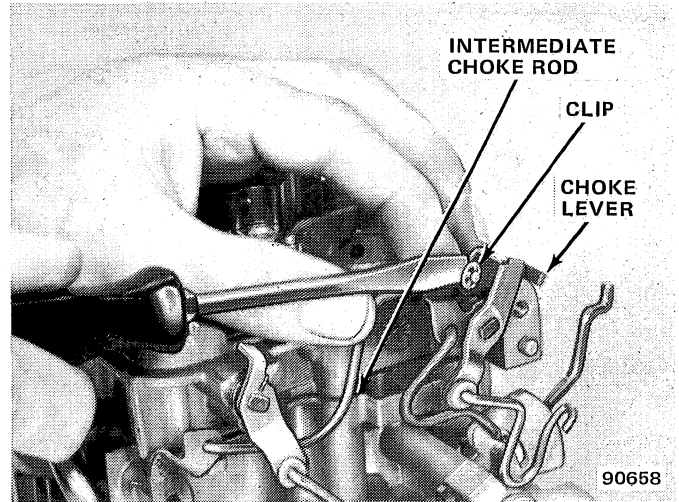

Fig. 1J-29 Model 2SE Carburetor—Choke Rod Removal
- (5) If equipped, remove two small screws that retain hot idle compensator valve (fig. 1J-30). Remove valve and seal from air horn, discard seal. Hot idle compensator valve must be removed to gain access to short air horn-to-bowl attaching screw.